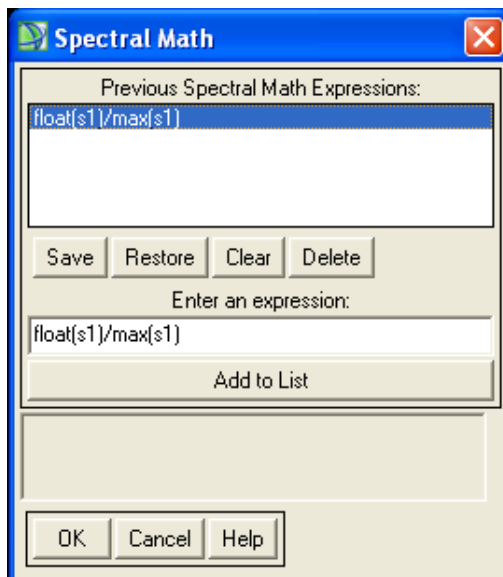

Figure 48. Normalizing expression in Spectral Math window
- c. The spectral math window will appear (see Figure 48)